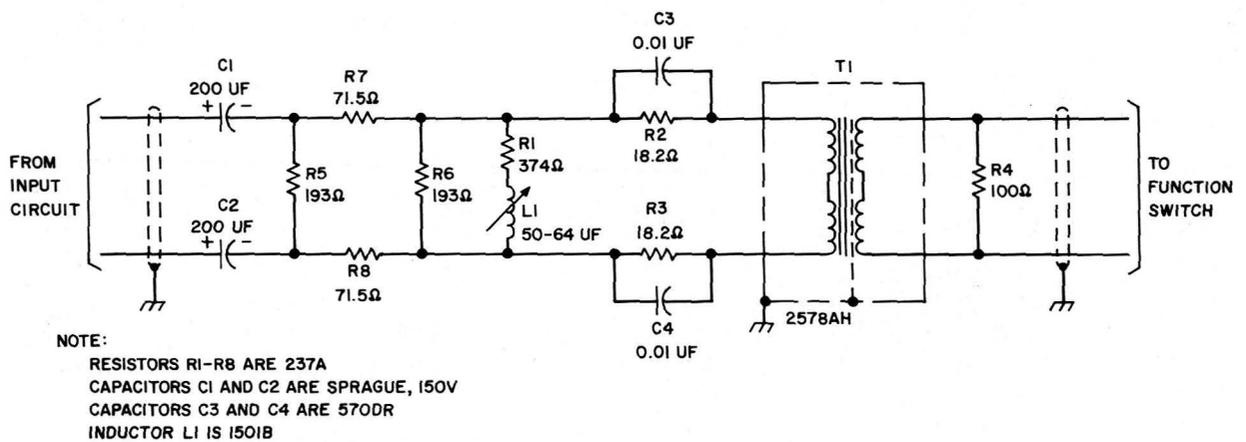

Fig. 3—Impedance Matching Network—Schematic Diagram
**3.03 Impedance Matching Network:** The impedance matching network is added to the HP3555A to provide a balanced 100 $\Omega$  input impedance required for PICTUREPHONE tests. It also reduces the effects of high longitudinal voltages on the accuracy of the test meter and provides dc blocking. The network is shown in Fig. 3.